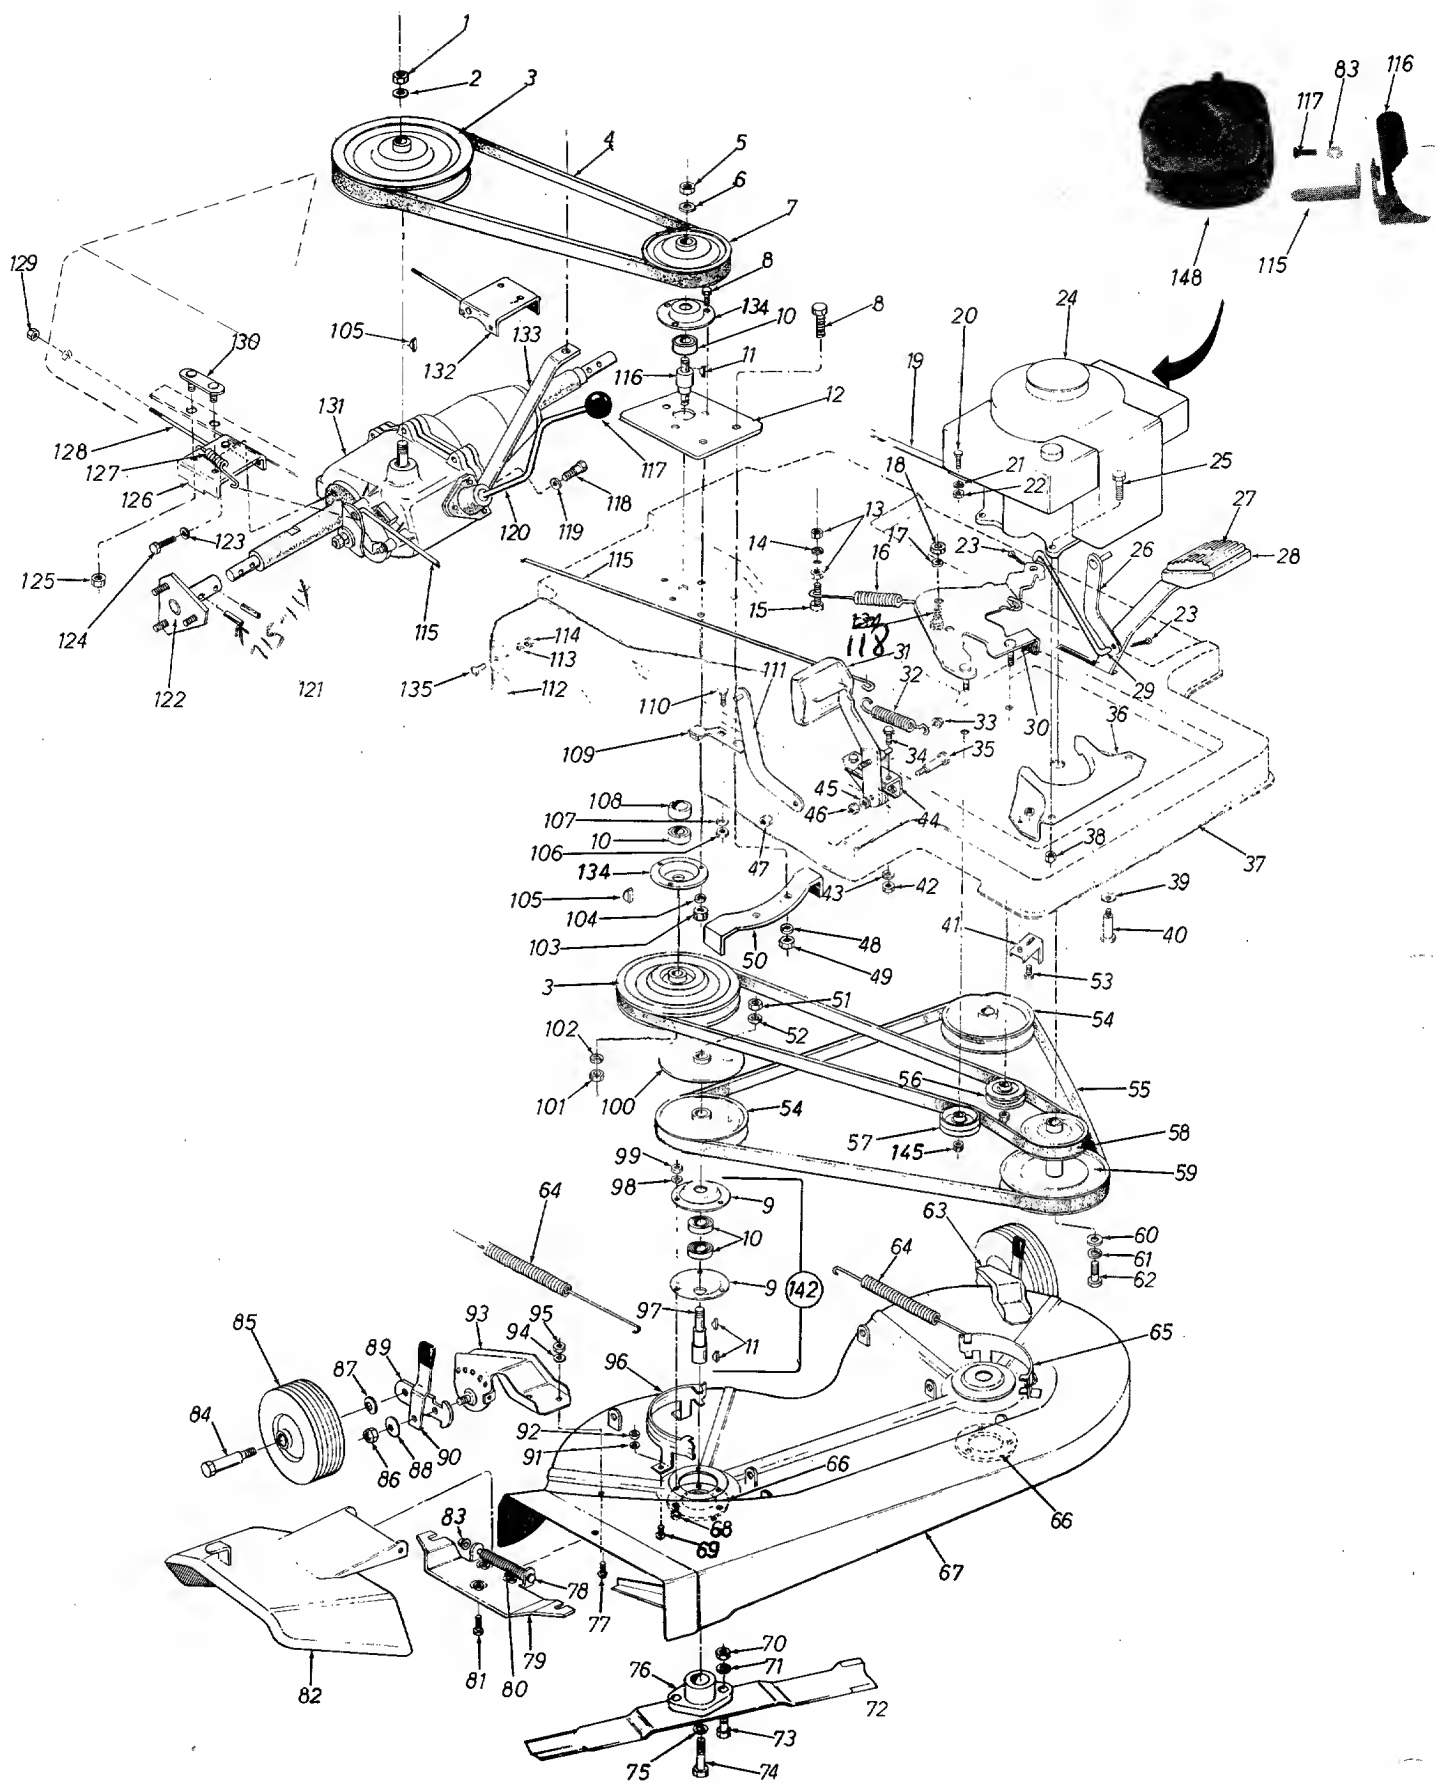

FIGURE 31. DECK AND FRAME VIEW
**PARTS LIST FOR FIGURE 31 DECK AND FRAME VIEW**